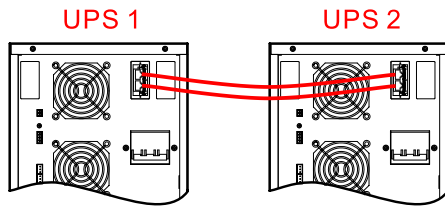
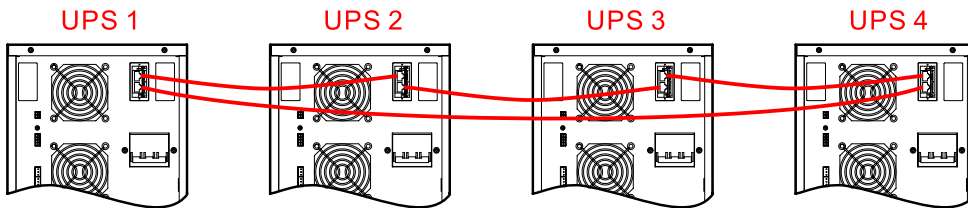

Figure3-34 Double parallel wiring diagram of MY10
Figure3-35 Four parallel wiring diagram of MY10
Step 3 Connect the parallel port of each UPS in parallel by parallel wires, as shown in Figure3-34 and Figure3-35.